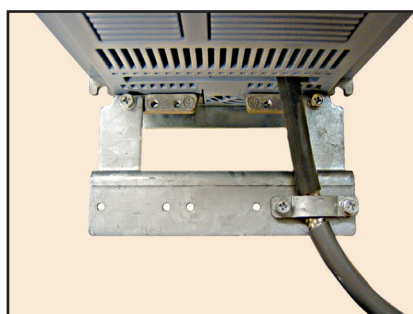

Figure 3.14 - Detail of the motor cable shield connection with the accessory PCSx-01 installed
- (1) SCu = copper or aluminum external shielding
- (2) AFe = steel or galvanized iron
- (3) PE = ground conductor
- (4) Cable shielding shall be grounded at both ends (inverter and motor). Use 360° connections for a low impedance to high-frequencies. Refer to figure 3.14.
- (5) For using the shield as a protective ground, it shall have at least 50 % of the power cables conductivity. Otherwise, add an external ground conductor and use the shield as an EMC protection.
- (6) Shielding conductivity at high-frequencies shall be at least 10 % of the power cables conductivity.
There is an option accessory for frames A, B, and C named “Kit for power cables shielding – PCSx-01” (refer to item 7.2) that can be adapted in the bottom of the enclosure of these frames. See an example of the cable connection with the accessory PCSx-01 in figure 3.14. The kit for power cables shielding is provided for the inverters with internal RFI filters (CFW11XXXXXOFA).
When the “Conduit Kit” (refer to item 7.2) is used for frames A, B, and C, motor cable shield shall be grounded similarly as in figure 3.14.